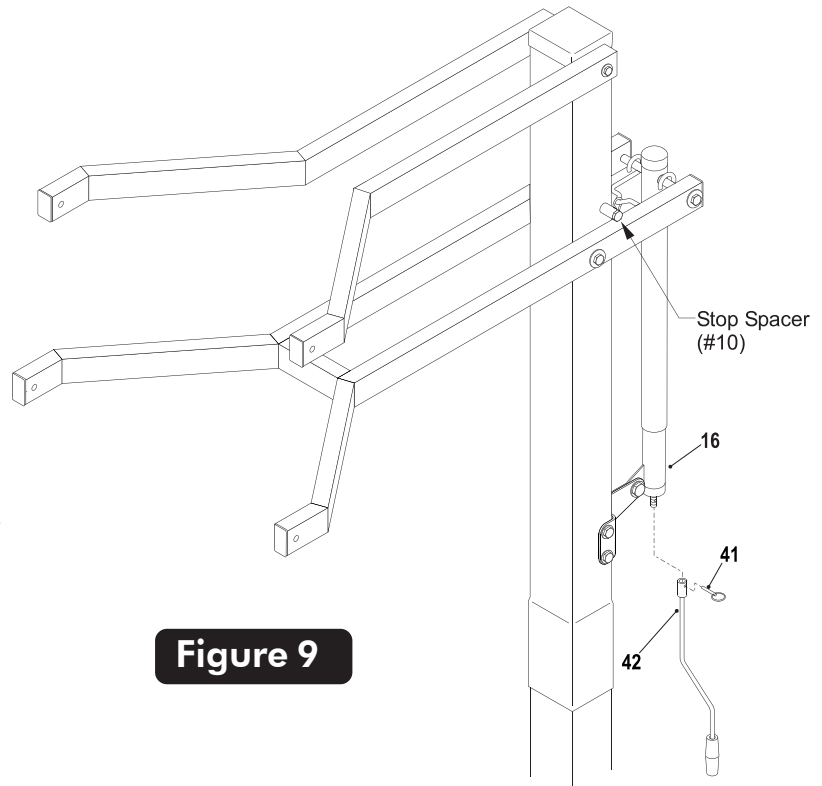

Figure 9
15. Slide Actuator Crank (#42) onto shaft on the bottom of Actuator (#16). Line up hole in shaft with hole in Actuator Crank and insert Pin (#41) to secure. See Figure 9.